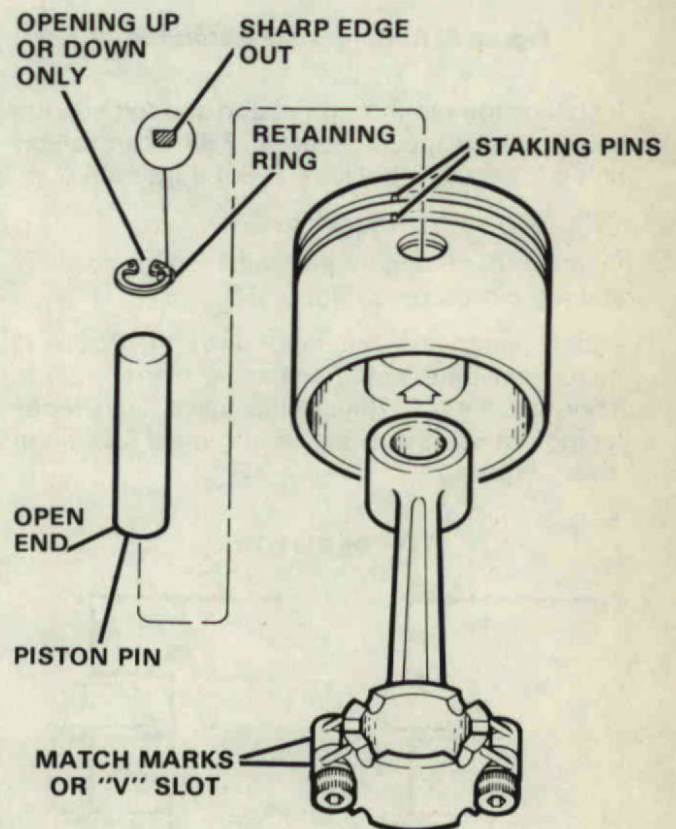

Figure 27. Assembling Piston to Connecting Rod.
The relation of these two parts is critical. Insert connecting rod with match marks or "V" slot to your left and with staking pins in piston grooves facing up. Figure 27.
Open end of piston pin must be opposite staking pin grooves. Figure 27.
D. Install piston pin retaining rings in groove in piston pin bore, using snap ring pliers. Special Tool No. T 1749. Rings must have sharp edge facing outward, opening in ring must face up or down, Figure 27.